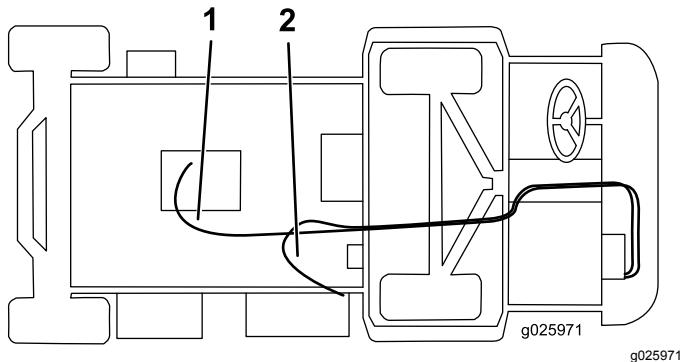

Figure 11
6. Connect the long hose to the heater valve with a hose clamp, and route it under the machine, over the axle, and to the straight fitting (Figure 11).
7. Connect the shorter hose to the white fill tee with a hose clamp, route it through the R-clamp on the heater bracket, and connect it to the tee fitting in the lower radiator hose with a hose clamp (Figure 11).